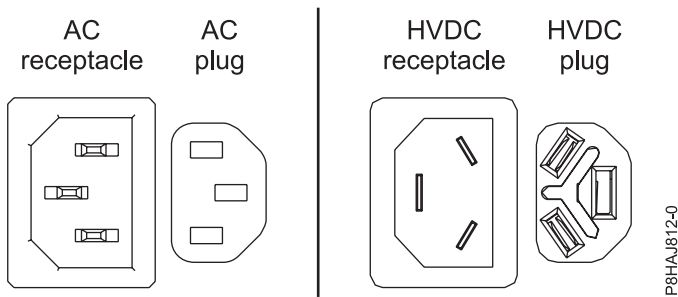
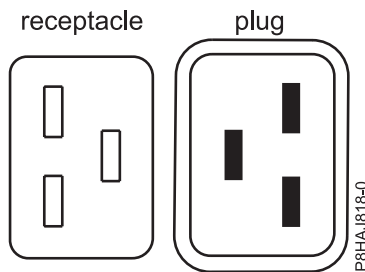
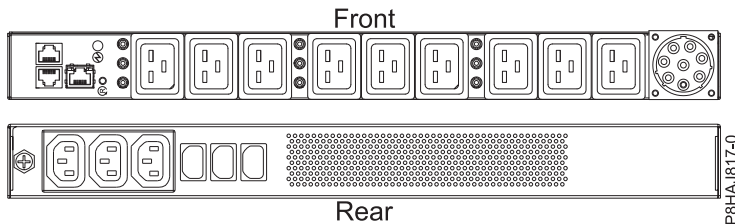

Figure 39. AC and HVDC connectors
Figure 40. Connectors for the 8408-44E system
Figure 41. PDU for the 8408-44E system
- The power cord is fastened to the system using the hook-and-loop fastener (A). If you are placing the system in a service position after disconnecting the power cords, then ensure that you unstrap the fastener.
Figure 39 shows the supported alternate current (AC) and high voltage direct current (HVDC) connectors. Figure 40 and Figure 41 show the supported connectors and power distribution unit (PDU) for 8408-44E.